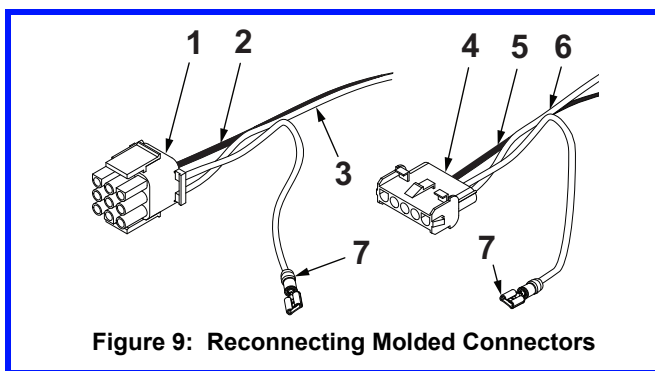

Figure 9: Reconnecting Molded Connectors
3. Insert the barbed connector wires (one black and one white) into the Lower Cabinet 9-Position Molded Plug (See Figure 9, Item 1). Reconnect the two halves of the plug. Make sure the wire colors match once the plug is reconnected.
(p/n: W0198) and Lower Cabinet Connector (p/n: W0199) (See Figure 9, Items 1 and 4). Reconnect the two halves of each plug making sure the wire colors match on both sides.